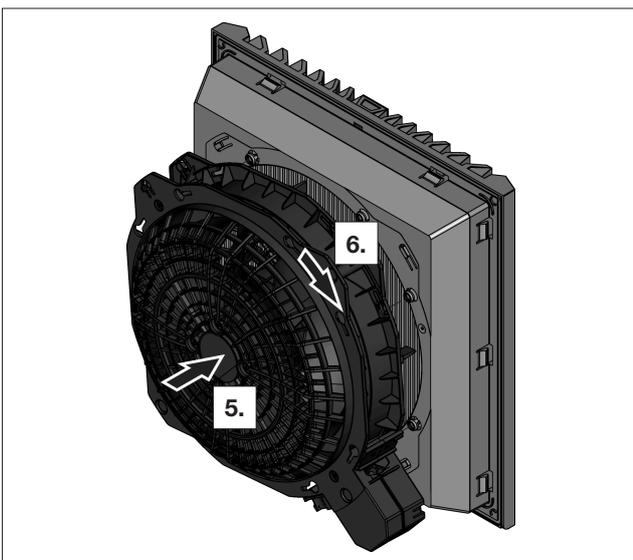

Fig. 17: Locking the bayonet connection
- Place the fan housing back on the filter box (see fig. 17).